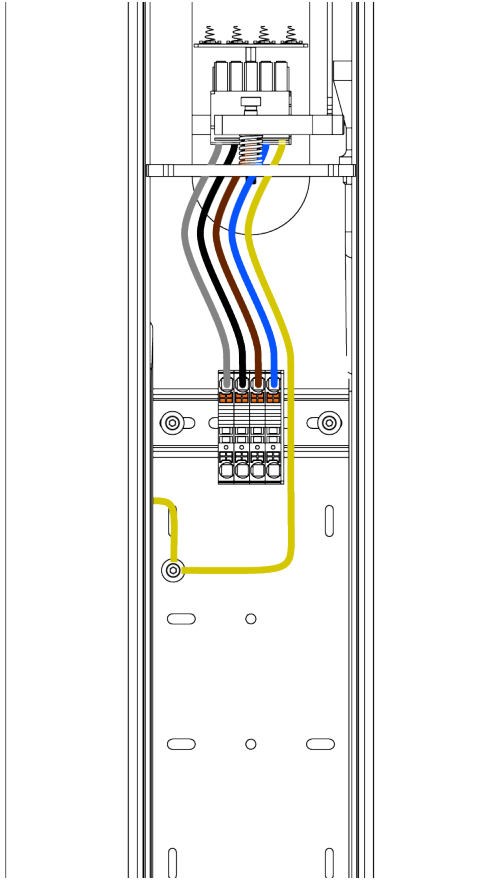

Fig. 39: Standard connection of Vertica Pole.
3. In the case of a Vertica pole equipped with a Verti-CAN module, connect two signal wires to the socket located on the PCB plate mounted in the Vertica Pole. Connect the red wire to the ,A+' port, and the green wire to the ,B-' port - see Figure 39.